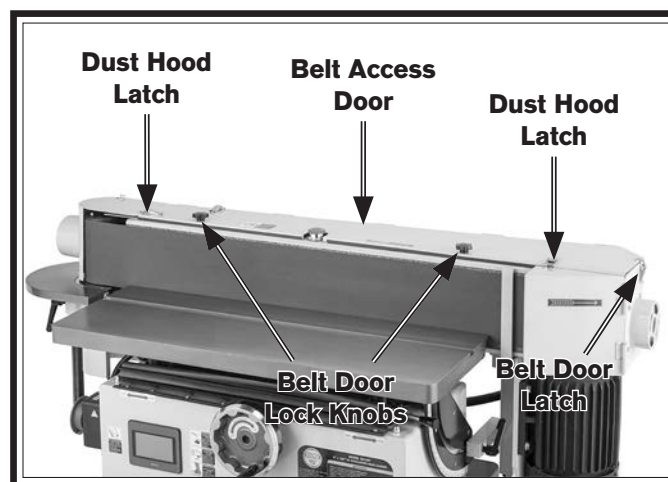

Figure 34. Location of latches and door lock knobs.
2. Unlatch dust hood latches shown in **Figure 34**.
3. Loosen (2) belt door lock knobs, unlatch belt door latch, and open belt access door (see **Figure 34**).